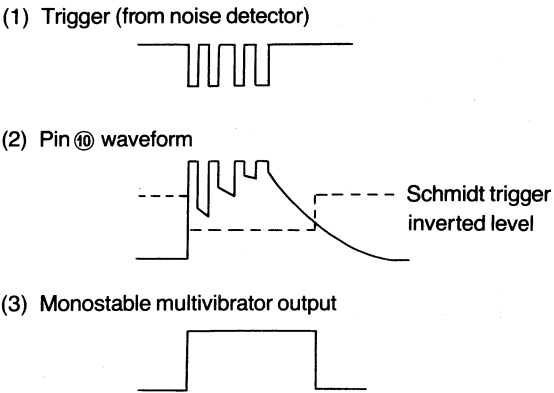

Fig. 26B Monostable multivibrator actual waveforms
(3) in Fig. 26 show the output pulse from monostable multivibrator. The width of the pulse depends on the time constant of C74 & R65. These operations are shown as an example. In this case, the output of the noise detector is a single pulse. In an actual case, pulse lines from the noise detector circuit are more than one ((1) in Fig. 26B). The next pulse in a series is applied before the Schmidt trigger reaches the invert level, therefore, the wave form on Pin 10, IC₂, will be (2) in Fig. 26B and output from schmidt circuit will be (3) in Fig. 26B. In other words, as the pulse line output of the noise detector becomes larger, the width of the output pulse (gate time) of the monostable multivibrator increases and it opens the gate for a period of time long enough to cut the pulse-like noise from the audio signal.